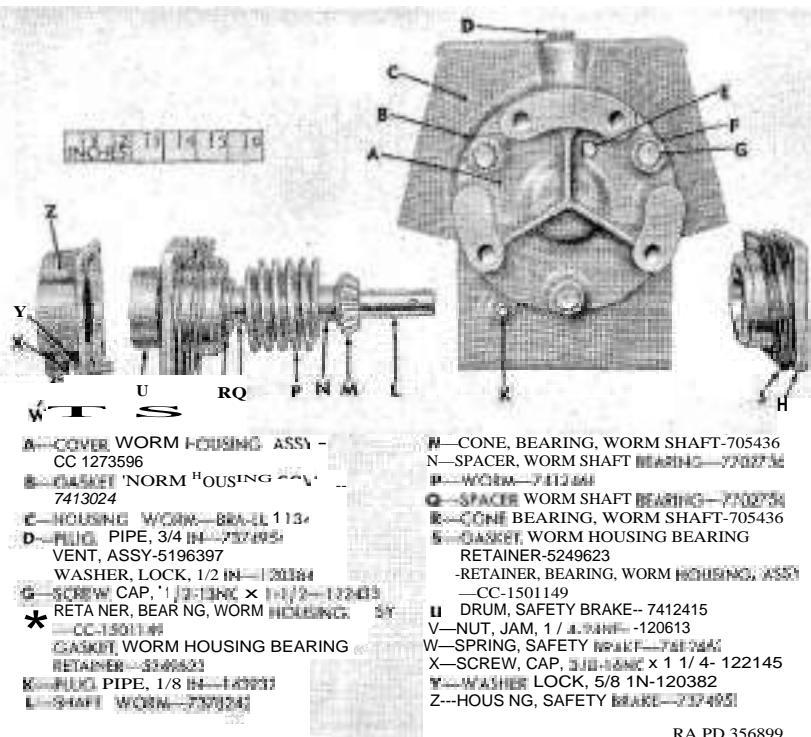

Figure 227. Worm, worm housing, and related parts.
Note. The key letters noted in parentheses are in figure 227, except where otherwise indicated.
- (3) Install safety brake spring (W, *fig. 227*) on threaded end of safety brake band assembly, followed by one $\frac{1}{4}$ -~~20NF~~ jam nut (V, *fig. 227*). Nut must be just flush with threaded end of band.
- (4) Position safety brake housing (Z, *fig. 227*) on safety brake drum.
- (1) Lubricate worm housing bushing-type bearing (MM) with universal gear lubricant (GO) and install cable drum shaft and worm gear in worm housing assembly as an assembly.
- (2) Position a new worm housing cover gasket (K) on worm housing cover assembly (L) and position cover assembly on worm housing with vent opening at top. Install three $\frac{1}{4}$ -inch lock washers (N) and $\frac{1}{2}$ -~~13NC~~ x $1\frac{1}{2}$ cap screws (P). Tighten cap screws. Check end play of cable drum shaft. Install additional worm housing cover gaskets, if necessary, until a small amount of end play is evident.
- (3) Install vent assembly (M) in worm housing cover.
- (4) Install $\frac{3}{4}$ -inch pipe plugs (G and LL) in ~~filler~~ and drain openings of worm housing assembly. Tighten plug only in drain opening.
i. Install Worm Shaft Assembly and Worm Housing Bearing Retainer Assemblies in Worm Housing Assembly (*fig. 227*).
- (1) Insert worm shaft assembly into worm housing assem-
- (2) Position safety brake housing (Z) on safety brake drum (U) (safety brake spring (W) down) and start $\frac{5}{16}$ -16NC x 1 1/4 cap screw (X) and $\frac{3}{8}$ -inch lock washer (Y) in worm housing. Install other seven $\frac{3}{8}$ -inch lock washers and $\frac{3}{8}$ -16NC x 1 1/4 cap screws in the two worm housing bearing retainer assemblies. Tighten cap screws.
j. Adjust Safety Brake Band Assembly (fig. 227).
- (1) Insert a long punch through this hole in drive end of worm shaft (L) so that shaft can be oscillated as brake adjustment is performed.
- (2) Oscillate worm shaft and tighten $\frac{1}{4}$ -24NF jam nut (V) until a noticeable drag is apparent in one direction. Holding jam nut, install and tighten other $\frac{1}{4}$ -24NF jam nut (V) to lock adjustment.